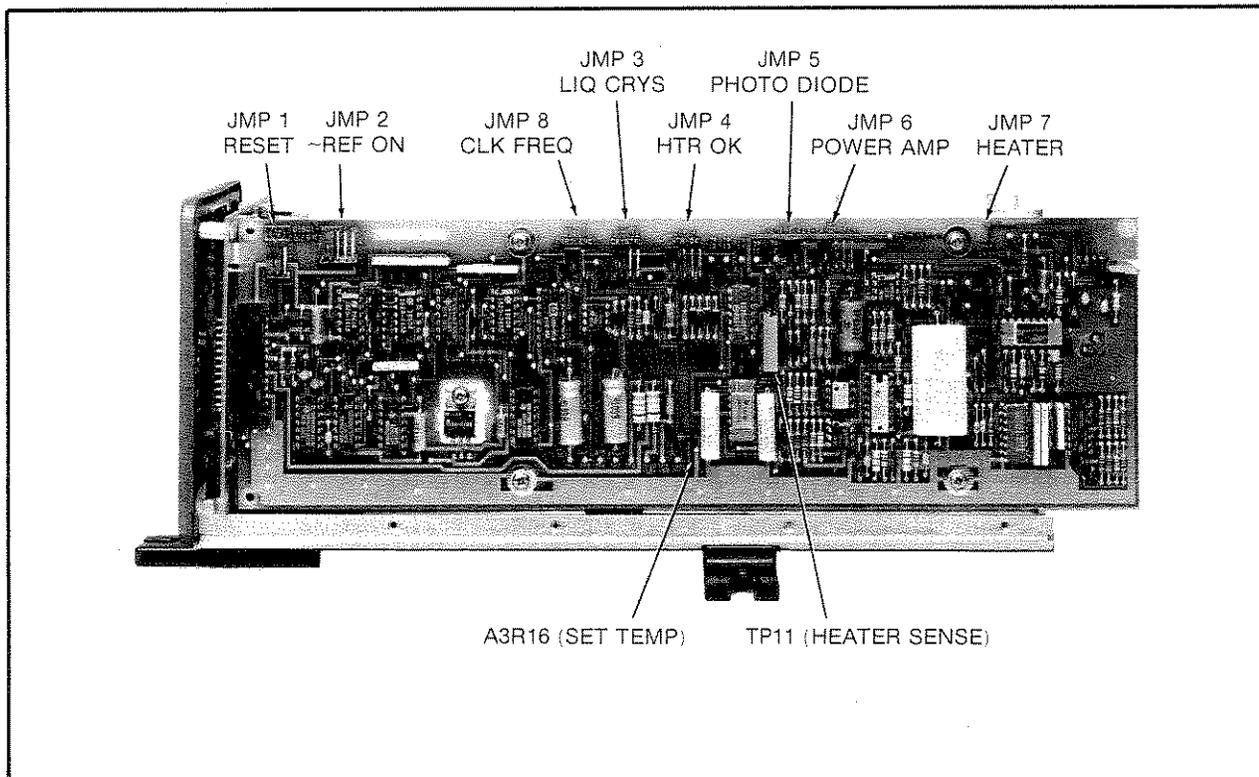

Figure 5-2. A3 Controller/Ref Board, Jumpers, Test Points, and Adjustment Locations
- c. On A3, change the HEATER jumper from NRM to OFF. See *Figure 5-2*.
- d. Apply power to the Digital Voltmeter and set its controls to the 1 Volt DC range. Connect the positive lead of the Digital Voltmeter to A3TP11, connect the negative lead to A3TP1. See *Figure 5-2*.
- d. Connect Digital Voltmeter plus lead to A3TP15. Connect the minus lead to A3TP1. See *Figure 5-2*.
- e. Check that the voltage at A3TP15 equals $V_{set} \pm 1$ millivolt as calculated in step b. If not, adjust A3R16 SET TEMP (see *Figure 5-2*).